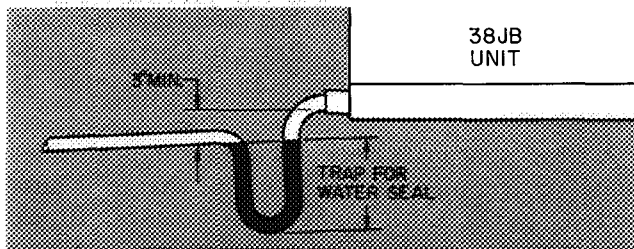

Fig. 3 — Trap for Drain
**BASEPAN DRAIN** — Trap 1/2-in. diameter drain in unit basepan for proper condensate disposal, see Fig. 3. Refer to Carrier System Design Manual, Part 3 for additional trap design details.